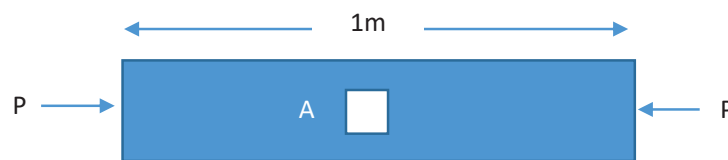

Figure 2 / Rajah 2
- (4). A bar of steel ($E=200$ GPa and $\nu= 0.30$) with a 30×30 -mm square cross section is subjected to an axial compressive load P of 180 kN, as shown in Figure 2. Calculate